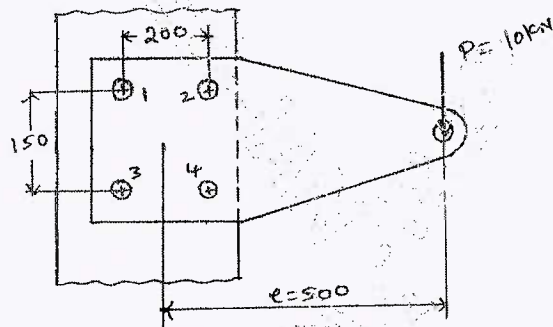

Fig.Q9(a)
- 9 a. The structure in Fig.Q9(a) is subjected to eccentric load  $P = 10 \text{ kN}$  with eccentricity of 500 mm. All bolts are identical made of carbon steel having yield strength in tension is 400 MPa and factor of safety is 2.5. Determine size of bolt.